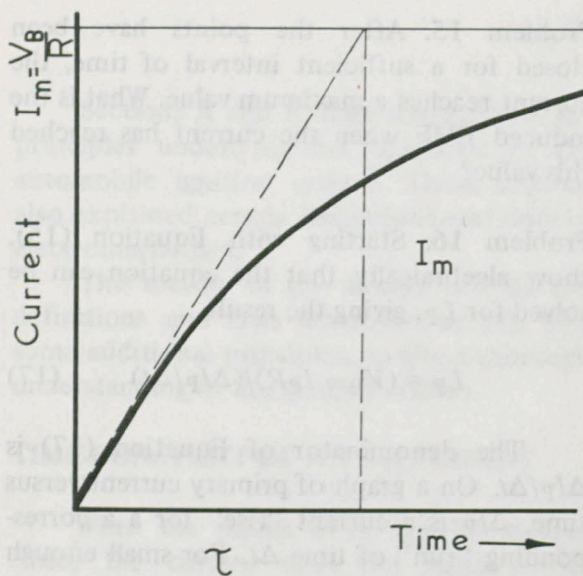

Figure 37.
To apply Equation (19) look at the graph in Figure 37. A dashed line is drawn tangent to the curve at $t = 0$ (at the origin) and is extended until it meets the horizontal line representing maximum current. Another dashed line is then drawn from that intersection down to the horizontal time axis. The slope of a curve at a point on the curve is defined as the same as the slope of the straight line which is tangent to the curve at that point. Thus, the slope of this curve at $t = 0$ is the slope of the dashed line. Then the slope has a "rise" of I_m and "run" of τ , where τ is a certain time interval. The slope is therefore I_m/τ .